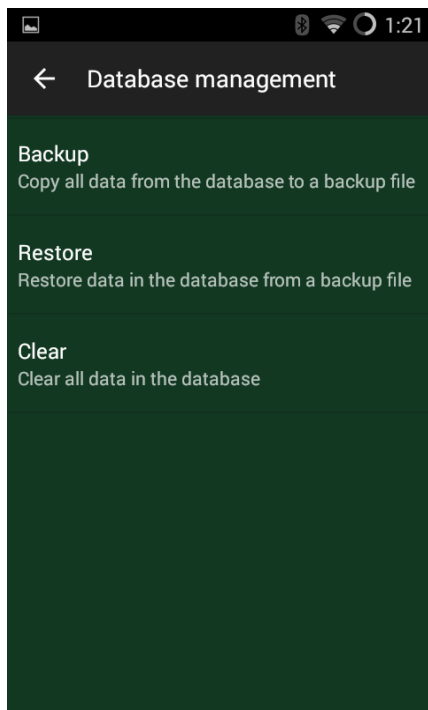

Figure 2.72 – Database management
3. Data – moving to the data management window. For more information, please refer to Section 2.9. You can also switch to the menu of database management (see Fig. 2.72), wherefrom you can make backup copying/restore and clean up the database.